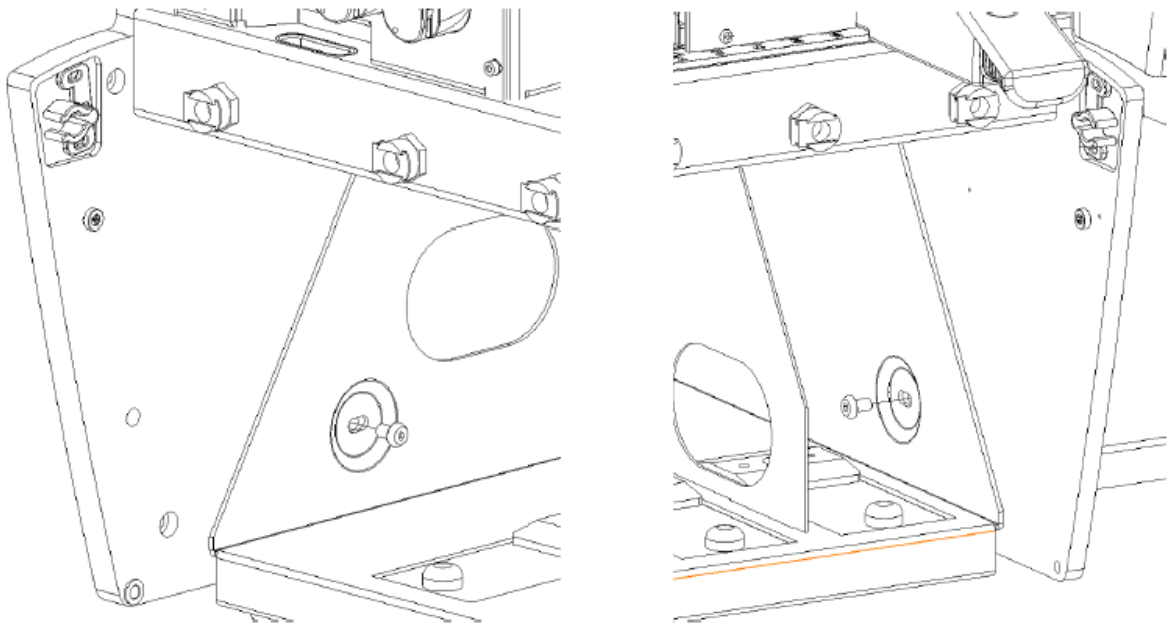

Figure K-1: Removing the Screws that Secure the Sides
1. Remove the two M5x8 BHCS that secure the sides of the Fluidics assembly as shown in Figure K-1.